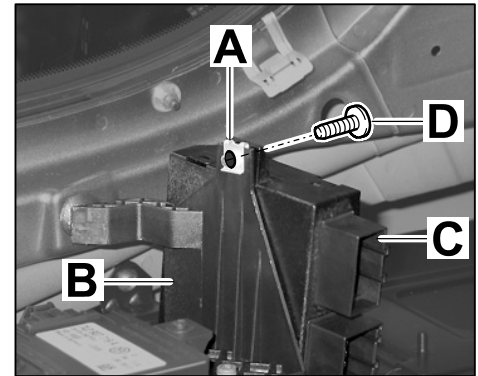

Figure 17
3.5.1 Fit M5 sheetmetal press nut ⇒ *Figure 17 -A-* to the control unit support ⇒ *Figure 17 -B-*.
3.5.2 Fit trailer hitch control unit ⇒ *Figure 17 -C-* on the control unit support and secure with the M5 x 12 screw ⇒ *Figure 17 -D-*.